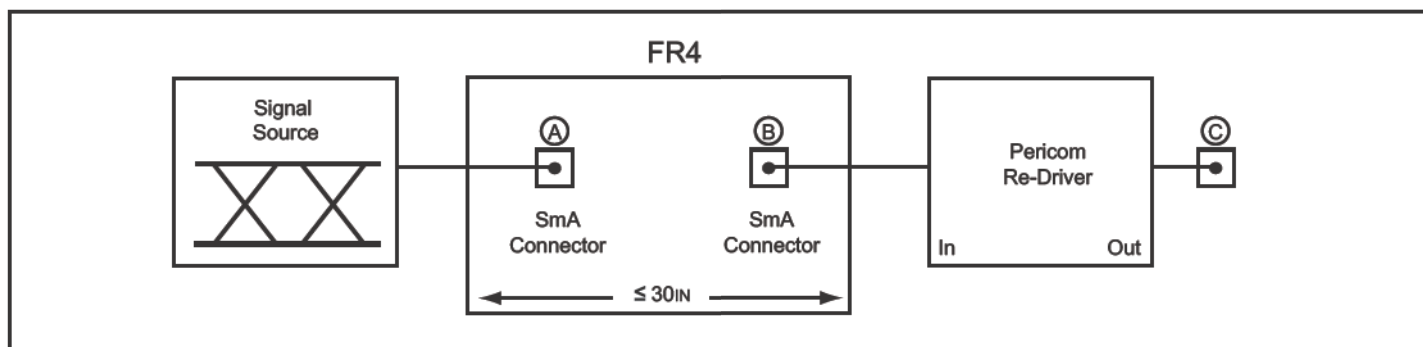

Figure 1. Test Condition Referenced in the Electrical Characteristic Table
- K28.7 pattern is applied differentially at point A as shown in Figure 1.
- Total jitter does not include the signal source jitter. Total jitter (TJ) = (14.1 × RJ + DJ) where RJ is random RMS jitter and DJ is maximum deterministic jitter. Signal source is a K28.5 ± pattern (00 1111 1010 11 0000 0101) for the deterministic jitter test and K28.7 (0011111000) or equivalent for random jitter test. Residual jitter is that which remains after equalizing media-induced losses of the environment of Figure 1 or its equivalent. The deterministic jitter at point B must be from media-induced loss, and not from clock source modulation. Jitter is measured at 0V at point C of Figure 1.